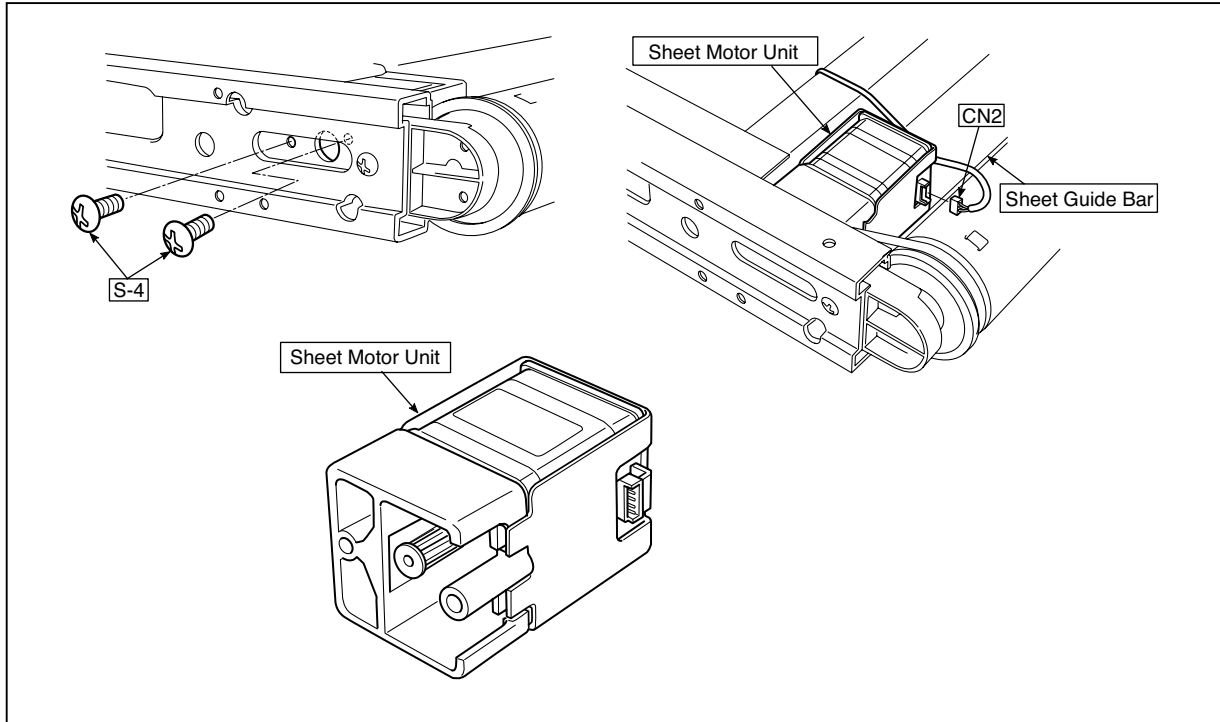

Fig.35
**21) Replace the Sheet Motor Unit. (See Fig. 35)**
1. Remove the "S-4" screws shown in the figure 35.